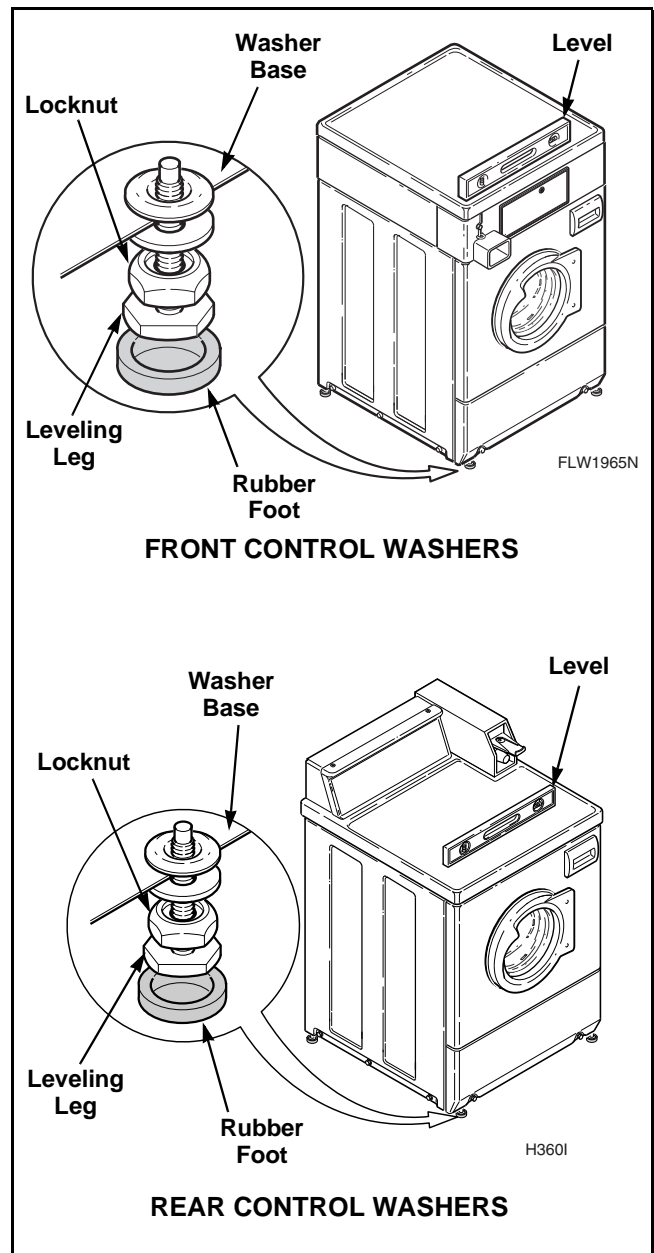

Figure 52
- Loosen locknuts and adjust the leveling legs until the washer **does not rock**. Refer to *Figure 52*.
NOTE: Level must rest on raised portion of top panel. Refer to *Figure 52*.
- Place rubber feet on all four leveling legs. Refer to *Figure 52*.